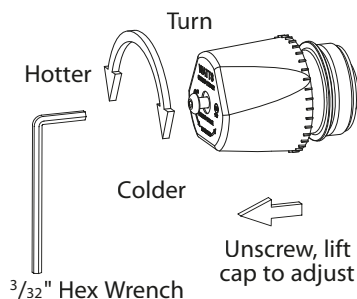

Figure 9.5 - Temperature Adjustment
3. To adjust the setting of the valve, loosen locking cap with hex wrench, see figure 9.5. Cap must be lifted 1/4" to adjust temperature. To increase the temperature, turn counterclockwise. To decrease temperature, turn clockwise